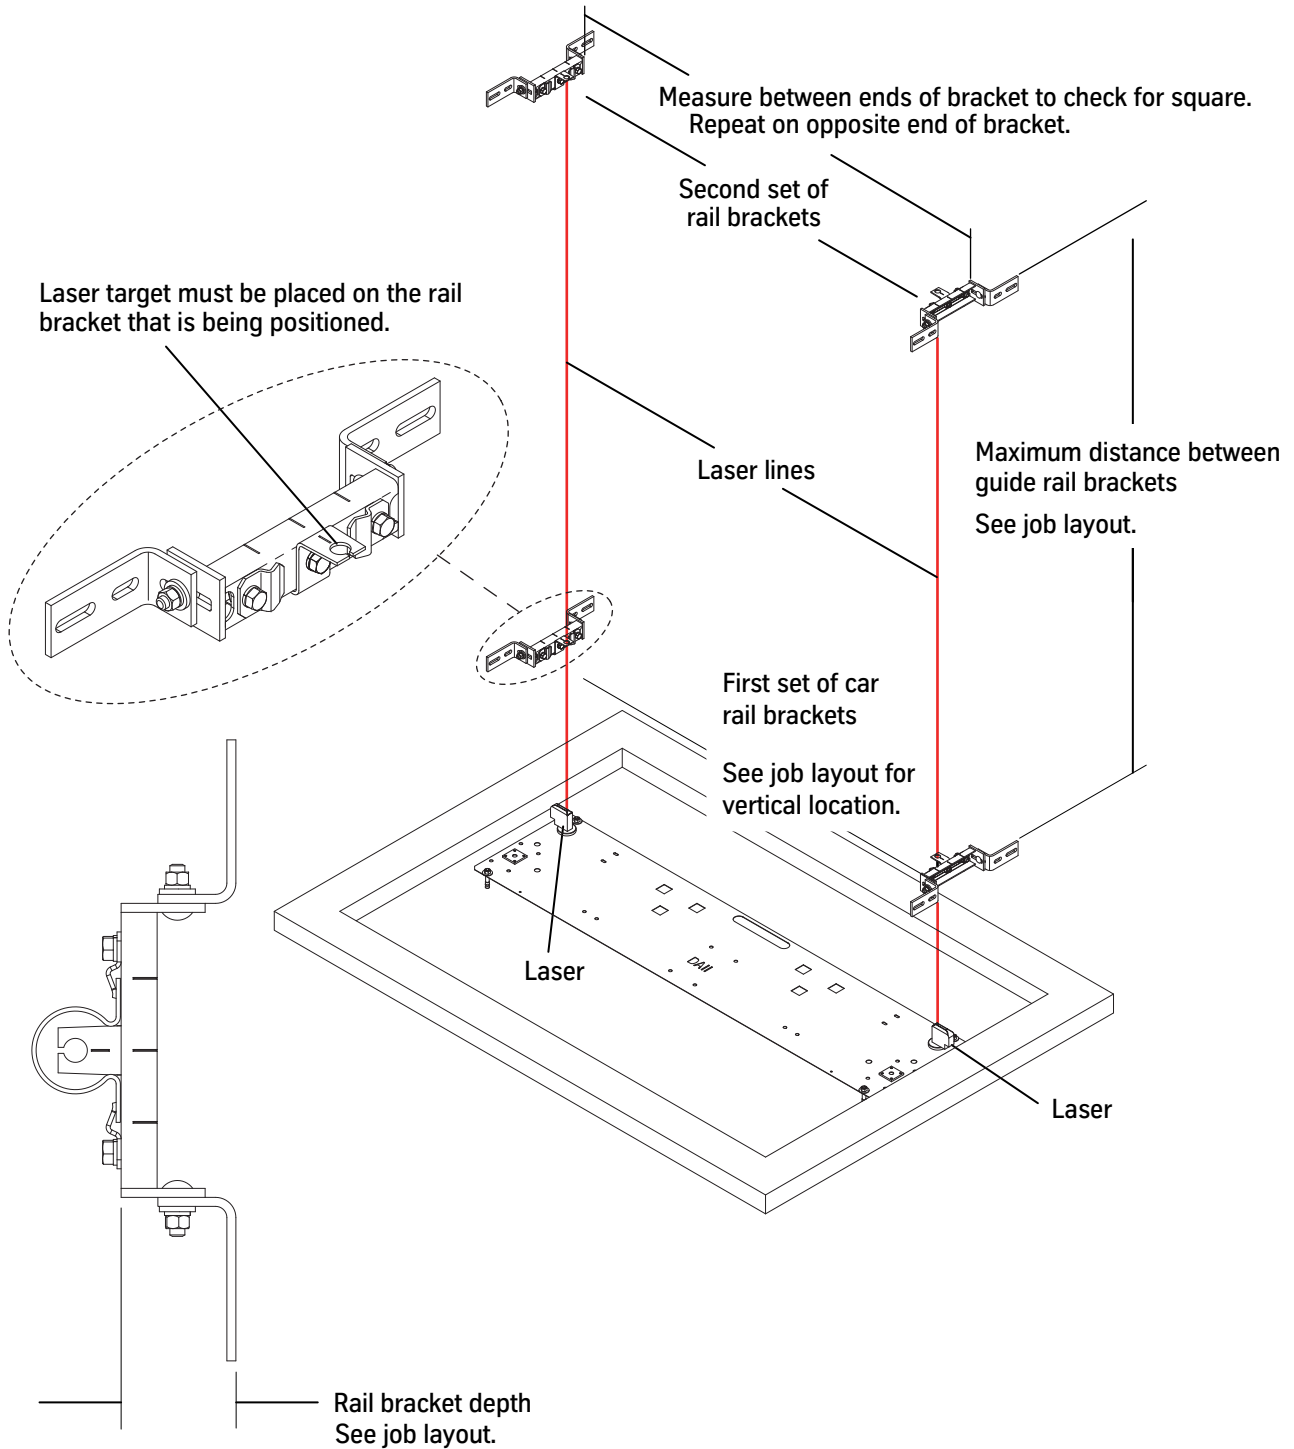

Figure 3 - Car Rail Bracket Installation
1. Set the depth of all rail brackets per the dimensions given on the layout. See Figure 3 on page 12.